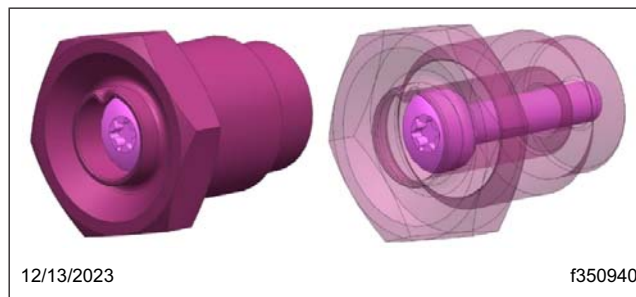

Fig. 19, Neutral Tool
74. Use a 30-mm socket to remove the neutral tool from the shift location. See Fig. 19.